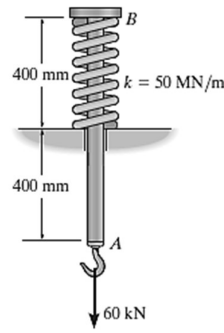

Fig. 5
5. If the 20-mm-diameter rod is made of A-36 steel and the stiffness of the spring is,  $k = 50$  MN/m, determine the displacement of end  $A$  when the 60-kN force is applied. [Fig. 5]